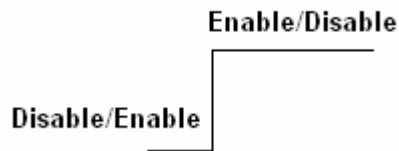
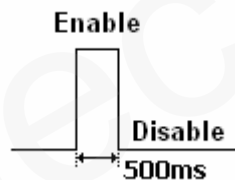
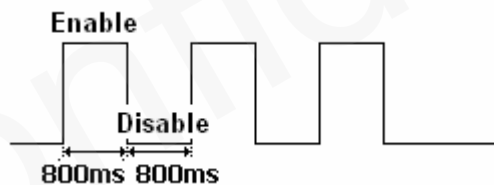

Figure 2: Wave Shape 1
Figure 3: Wave Shape 2
Figure 4: Wave Shape 3
- ✧ <Output1 - 4 Status>: Used only for the wave shape 1 as shown in **Figure 2** to set the final status of the output port.
- ✧ <Duration>: Please refer to **Figure 2**, **Figure 3** and **Figure 4**. Unit is 100ms.
- ✧ <Toggle Times>: Please refer to **Figure 2**, **Figure 3** and **Figure 4**.